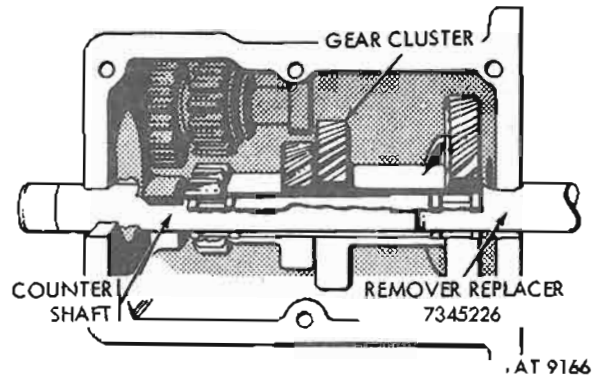

Figure 8-33. Countershaft gear cluster and countershaft.
f. Using insert remover-replacer (7345226), force countershaft from transmission case, leaving remover-replacer in countershaft gear cluster to hold bearings in position (fig. 8-33).